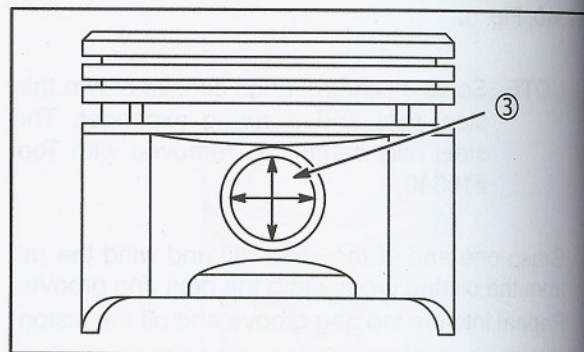

Fig. 9
If piston pin bore (3), Fig. 9, is worn over reject size, Table No. 4, page 10, re-bore piston and rod for oversize piston pin or replace piston.